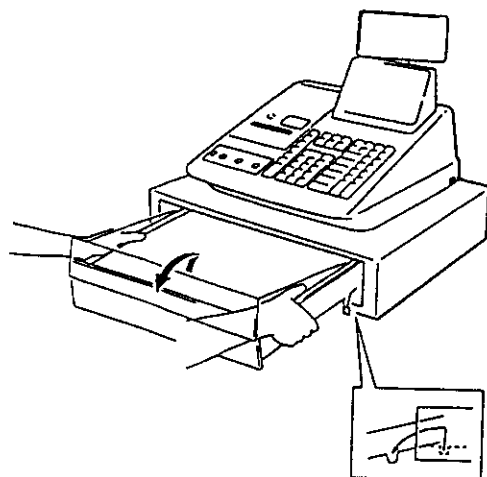
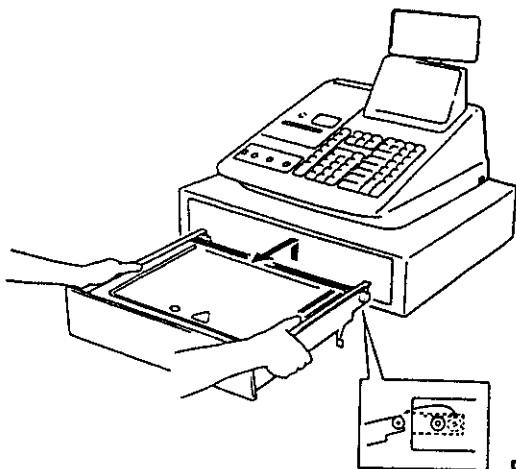

Fig. 2
Fig. 3
- 1) Pull the drawer out, and when it stops at the stopper, lift the drawer up and pull it further out (Fig. 2). When it stops again at the roller fixed in the drawer housing, lift it and pull it out (Fig. 3).